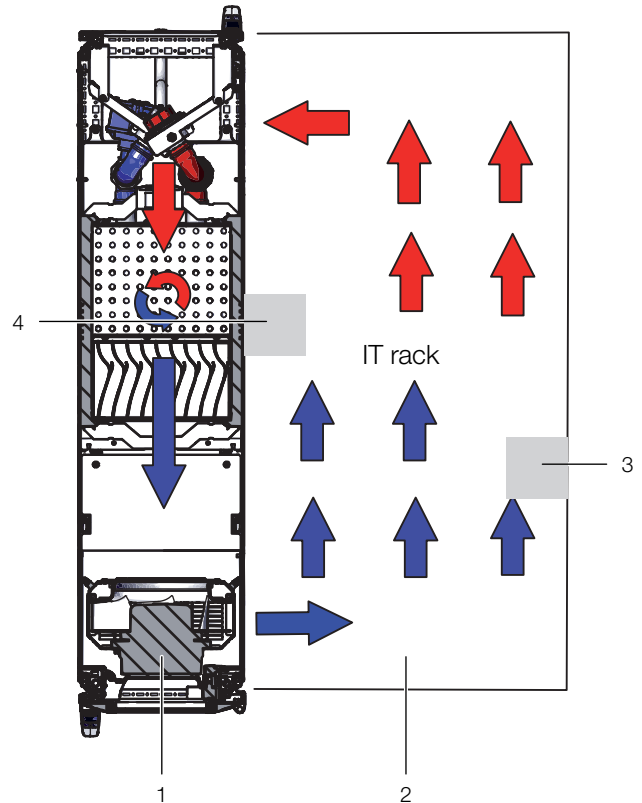

Fig. 33: Placement of foam strips for devices with sideways air throughput (top view) – LCP Rack
- If several devices which require sideways air throughput are included, cut out several pieces of the foam strip, as is appropriate, so that, ultimately, there is a cut-out in the foam to the left or right at the height of each such device in the server rack. Ensure that there are no gaps on the hot air side of the device (fig. 33, item 3).
- Attach the foam strips to the cold air side of the devices set back towards the rear (fig. 33, item 4), making sure that all fans built into the devices can draw air and that none of them are blocked.
The foam strips can be attached between the front and rear supports of the server rack along the entire depth of the devices with sideways air throughput (fig. 33).